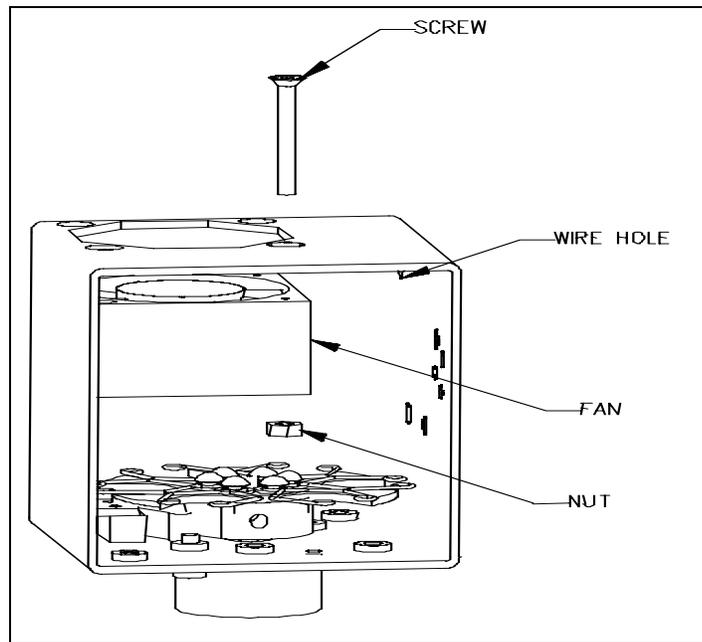

Figure 11-28 Optics Cube Fan
- 1 Remove the fan from the optics cube by removing the 4 M3 x 25mm flat head screws that secure it to the cube (Figure 11-28).